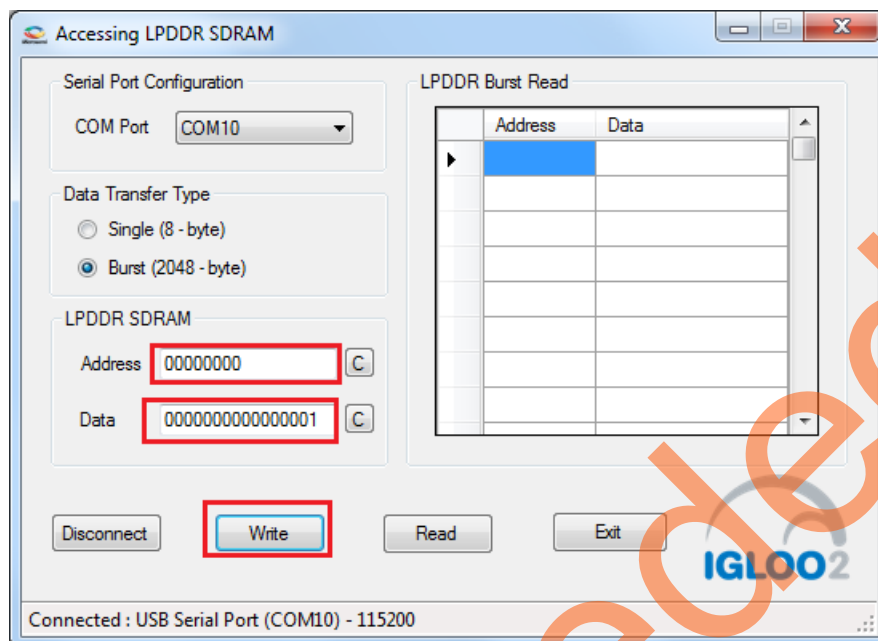

Figure 24 • Burst Write operation
5. Figure 24 shows the **Address** and **Data** values entered for a Burst Write operation.